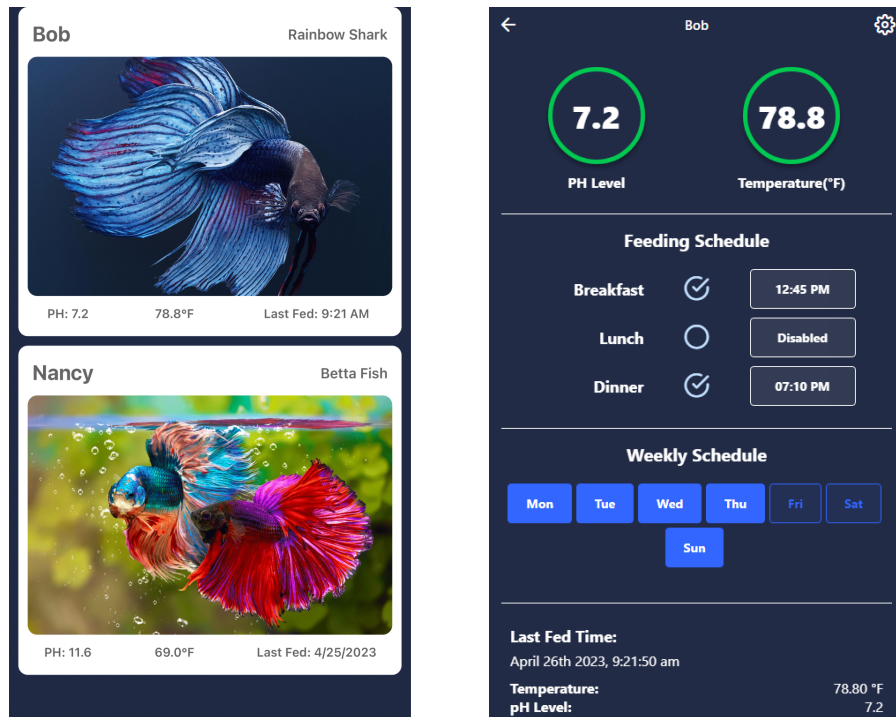

Figure 4: User Home Screen and Tank Page
4. After successfully logging in, your home screen will be displayed. You will be able to view all of the tanks that you manage along with real-time information for each tank. To view a specific tank individually, simply click on it. A sample home screen and tank page are shown in *Figure 4* below.